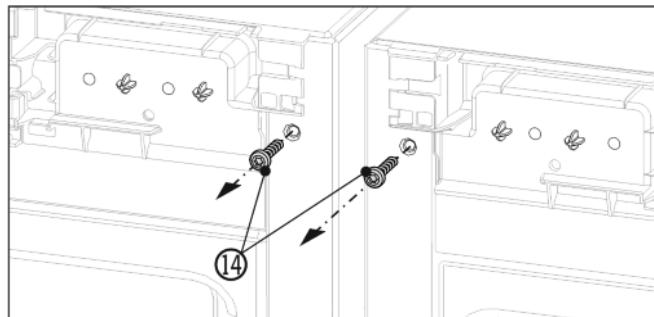

Fig. 6
- Before fitting the top bracket remove both earthing screws Fig. 6 (14).